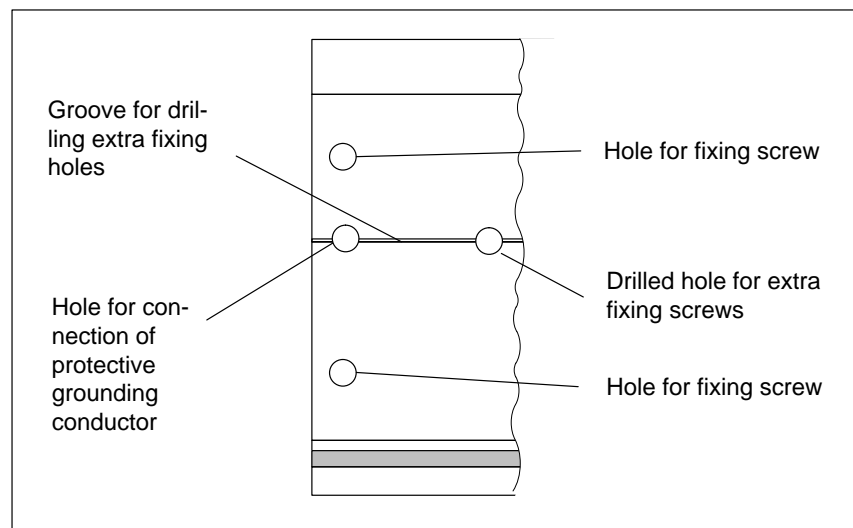

Figure 5-3 Fixing Holes of the 2 m/6.56 ft. Rail
- If it is, you must drill extra holes for fixing screws to stabilize the rail. Mark these holes (at approximately 500 mm/19.5 in. centers) along the groove in the middle section of the rail (see Figure 5-3)
Figure 5-3 contains a few details of the 2 m long rail you need to know for preparing it.